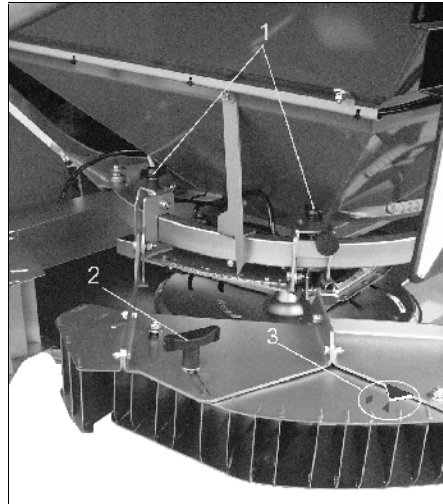

Fig. 42
- Symbol "▲" or "◆" (Fig. 42/3)
- For setting the scale (0-15) loosen the handles (Fig. 42/1) do the setting following the table and tighten the handles again.
- In order to swivel the border spread deflector in- or outwards, loosen the handle (Fig. 42/2) and turn the deflector until the pointer (Fig. 42/3) pointer has moved to the "▲" or "◆" symbol. Retighten handles.